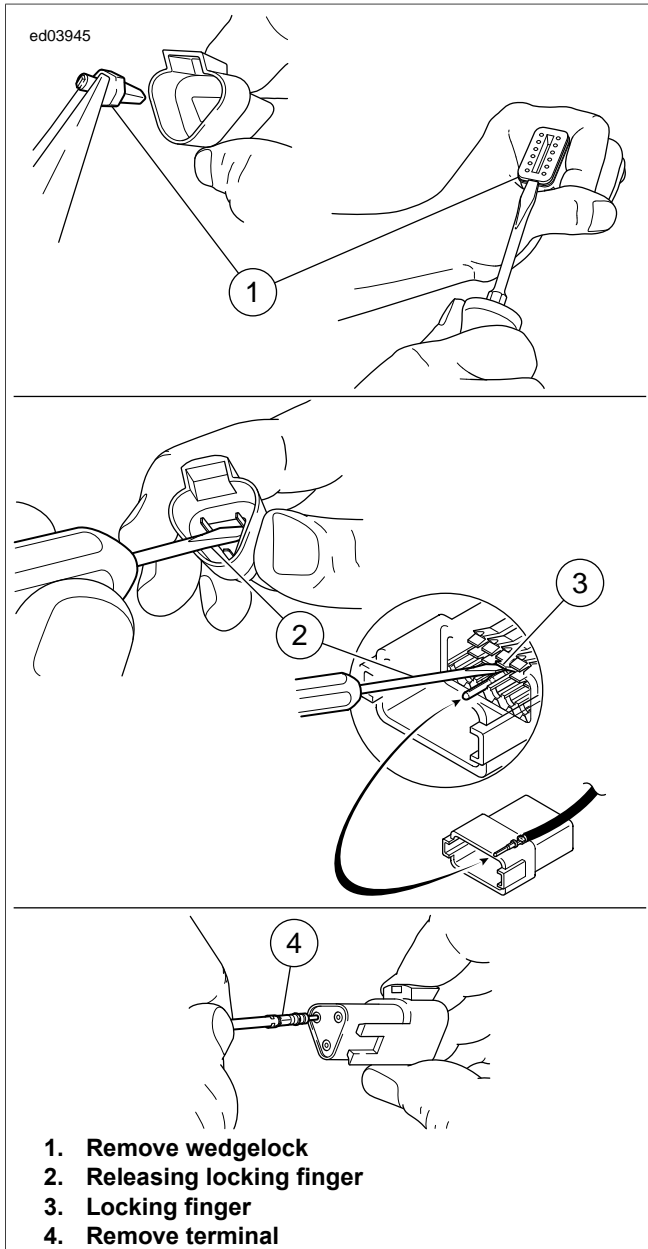

Figure B-14. Terminal Removal
- See Figure B-14. Remove wedgelock using needlenose pliers or removal tool.